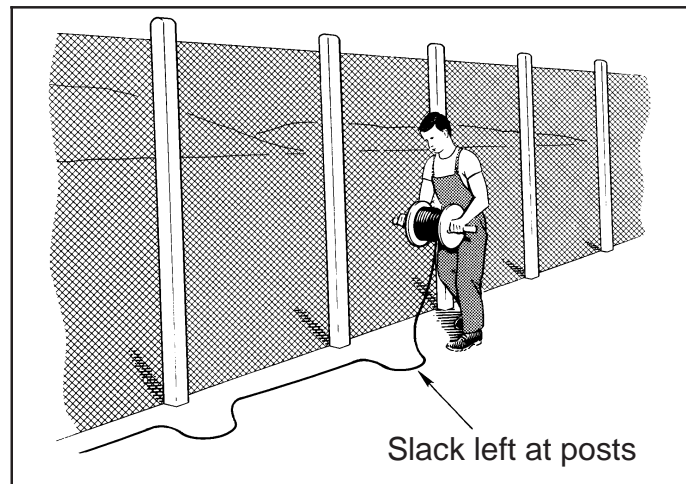
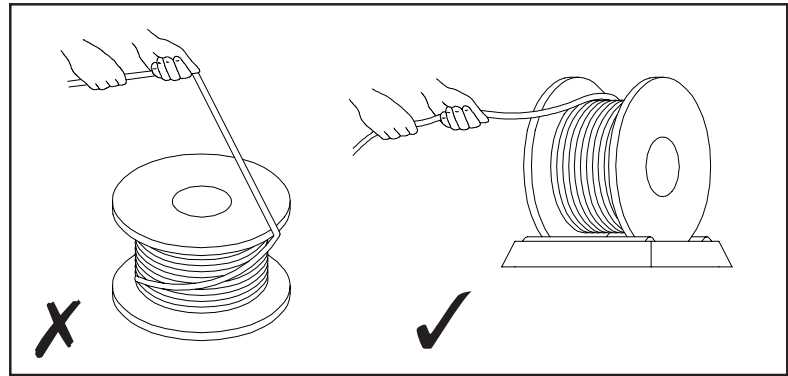
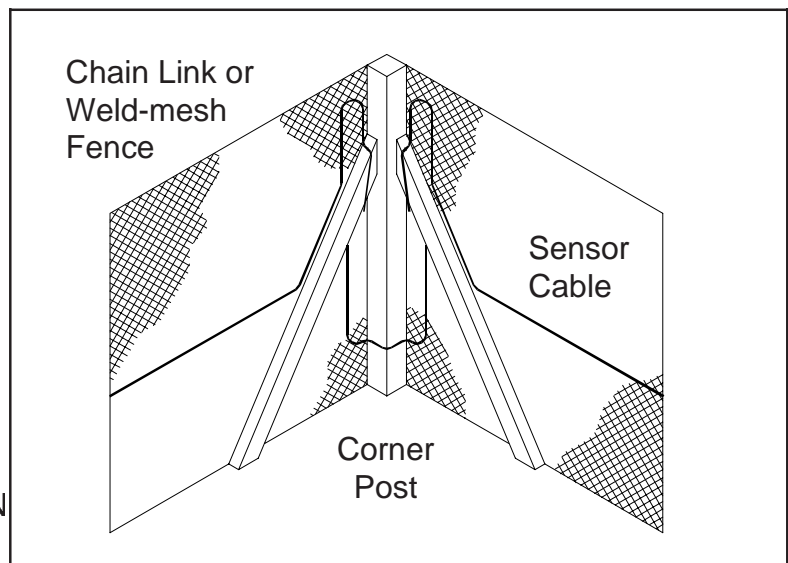

Figure 1
Figure 7
Figure 8
1. In general the sensor cable is removed from a reel by placing a pole through the reel and unwinding the cable by rotating of the reel. Failure to do this will allow kinks to form in the cable that will cause internal damage. Figure 1 shows this method of deploying sensor cable prior to fixing to the fence. Ensure that the sensor cable is not subjected to jerking or tugging whilst being wound off the reel. Note that two people will be required when dealing with large reels of sensor cable.
If 'Bi-Steel' posts are used to support weld-mesh fences, it may be possible to pass the sensor cable through the post assembly and thus avoid the need to form a loop round the post. This is provided that the sensor cable is pulled off the reel using a proprietary de-reeler as shown in Figure 7 and not laid out as shown in Figure 1.
Configure the sensor cable as shown in Figure 8. This will improve the probability of detection of intrusion at the corners.
2. Place a length of tube or rod through the centre of the cable reel and walk towards the other end of the zone while paying the sensor cable off the reel and allowing it to lie on the ground. Refer to Figure 1. Rotate the drum whilst walking.
3. Ensure that sufficient slack cable is left on the ground to accommodate loops round fence posts, as shown in Figure 1 and corner post configuration, as shown in Figure 8.